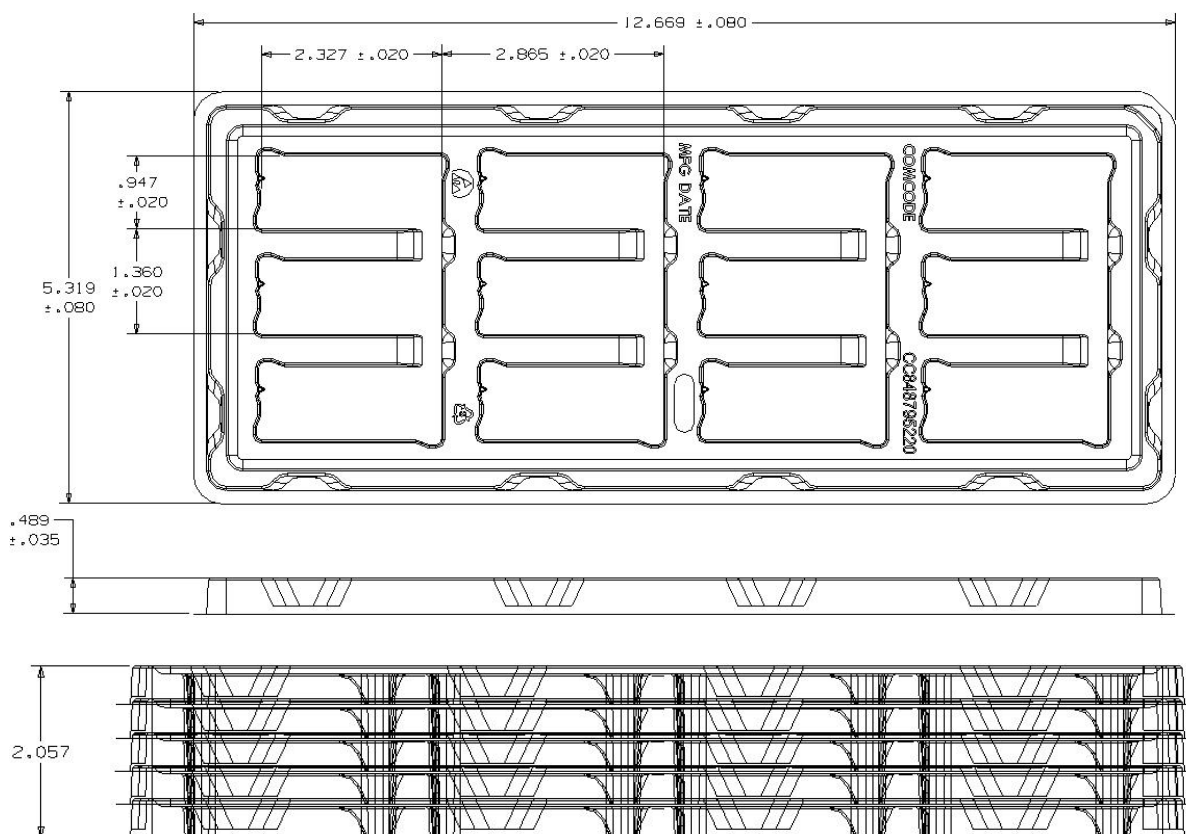

Figure 26. Surface Mount Packaging Tray.
The surface mount versions of the EVW surface mount modules (suffix –S) are supplied as standard in the plastic tray shown in Figure 26. The tray has external dimensions of 135.1mm (W) x 321.8mm (L) x 12.42mm (H) or 5.319in (W) x 12.669in (L) x 0.489in (H).